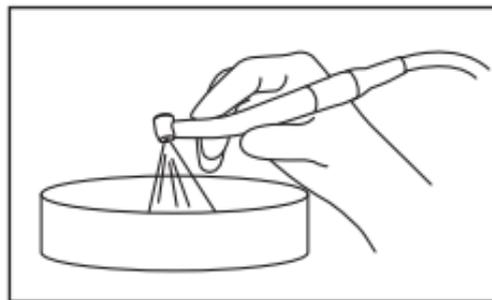

Fig. 12
- 4 Operate the motor at the chair-side for at least 20 seconds to purge fluids in the motor (Fig. 12). (M205)